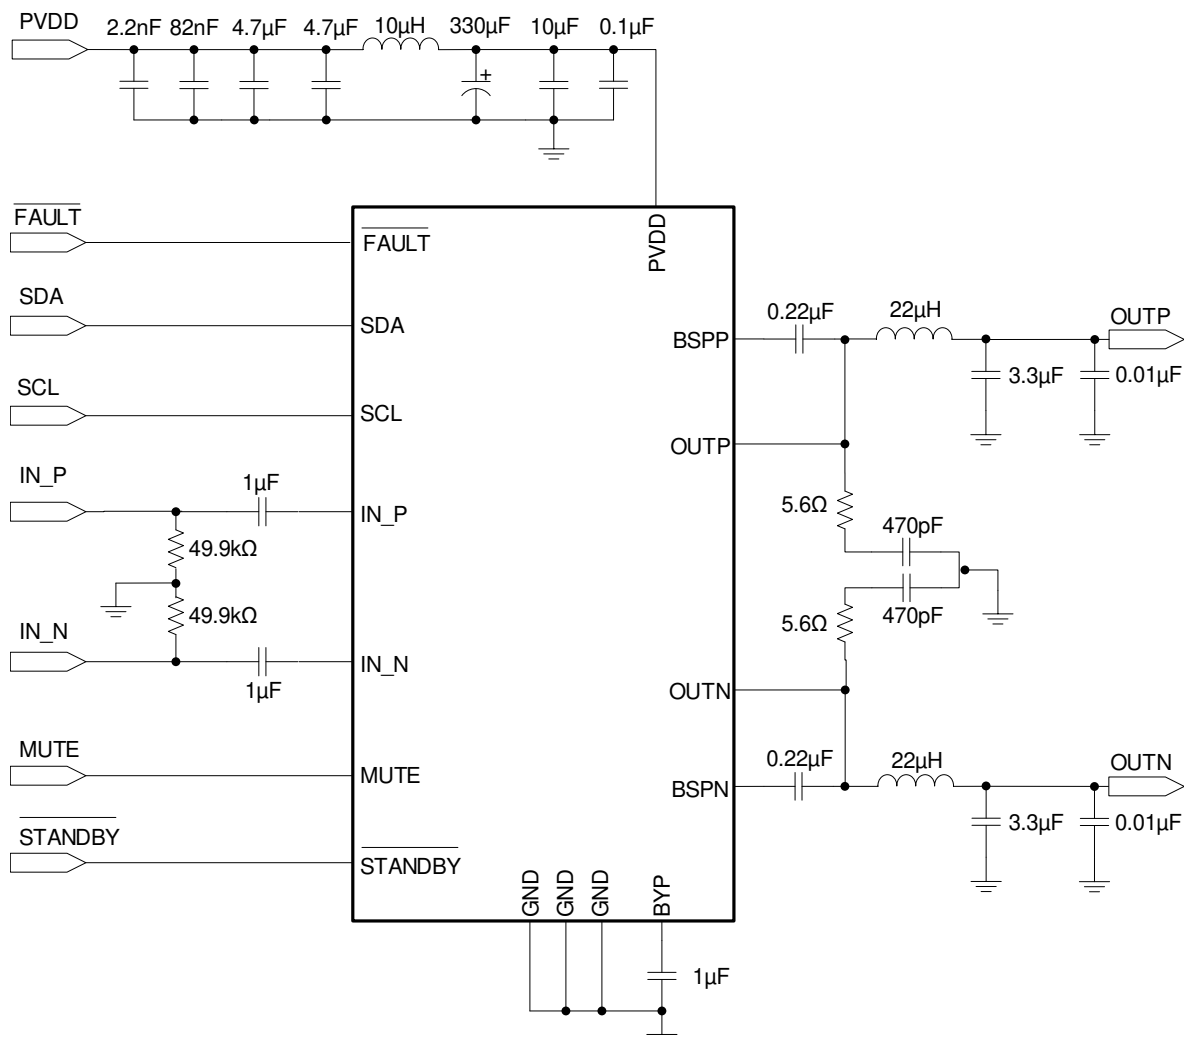

图 17. TAS5441-Q1 Typical Application Schematic
The output stage uses dual NMOS transistors; therefore, the circuit requires bootstrap capacitors for the high side of each output to turn on correctly. The required capacitor connection is from BSTN to OUTN and from BSTP to OUTP as shown in 图 17.
- Step 1: Hardware Schematic Design: Using the 图 17 as a guide, integrate the hardware into the system schematic.